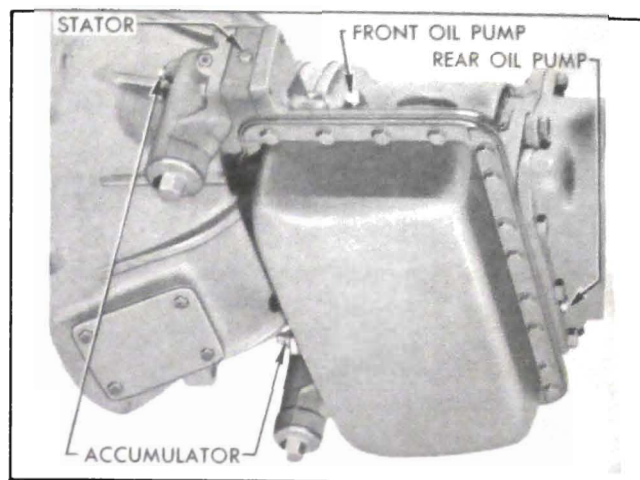

Figure 5-23—Gauge Connections for Oil Pressure Tests
Remove pipe plug at the following points in turn and connect Pressure Gauge J 2575. (1) *Front oil pump*, on left side of transmission case. (2) *Rear oil pump*, in lower flange at front end of rear bearing retainer. (3) *High or low accumulator*, on front upper corner of accumulator body. (4) *Stator*, on left end of reaction shaft flange. See figure 5-23.